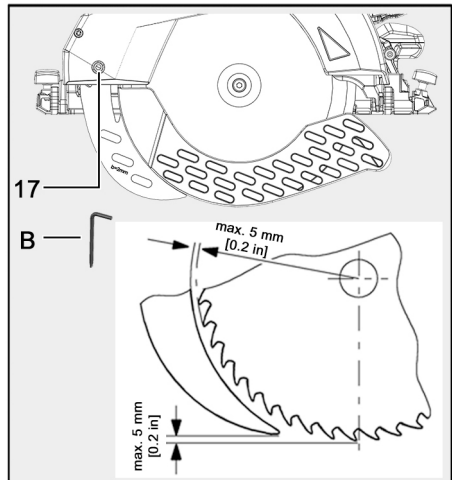

Fig. 10: Distance riving knife to saw blade
2. Using the Allen key (B) provided, turn the screw (17) **counterclockwise** to adjust.
- Do not exceed the maximum distance to the saw blade (see Fig. 10).
4. Using the Allen key (B), turn the flange screw (17) **clockwise** to tighten it.